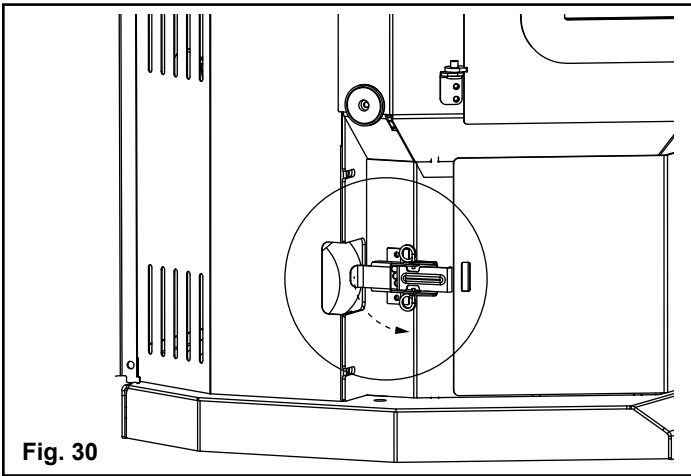

Fig. 30
2. Release spring latches on the right and left side of the ash pan. Fig. 30